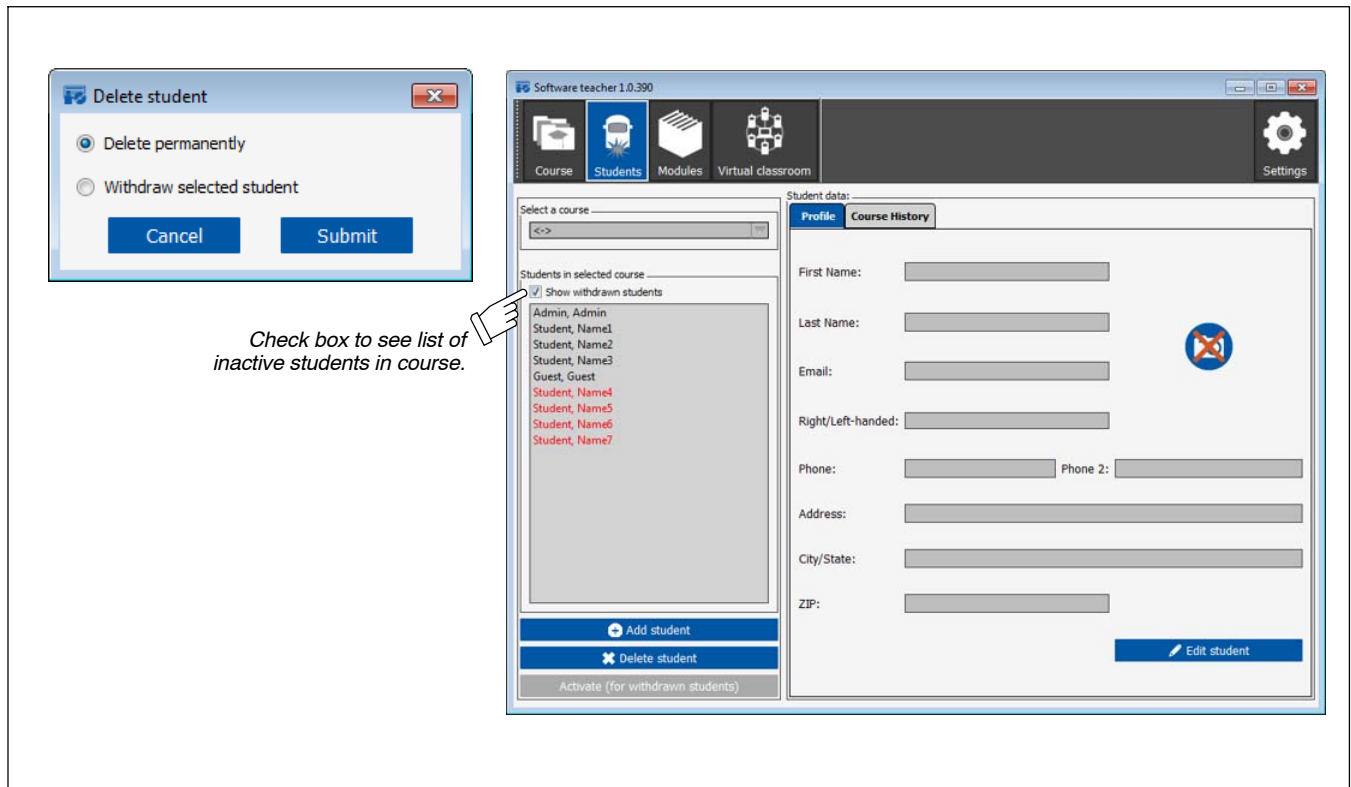

Figure 9-12. Delete Student And Inactive Student Screens
D. Deleting A Student (Figure 9-12)